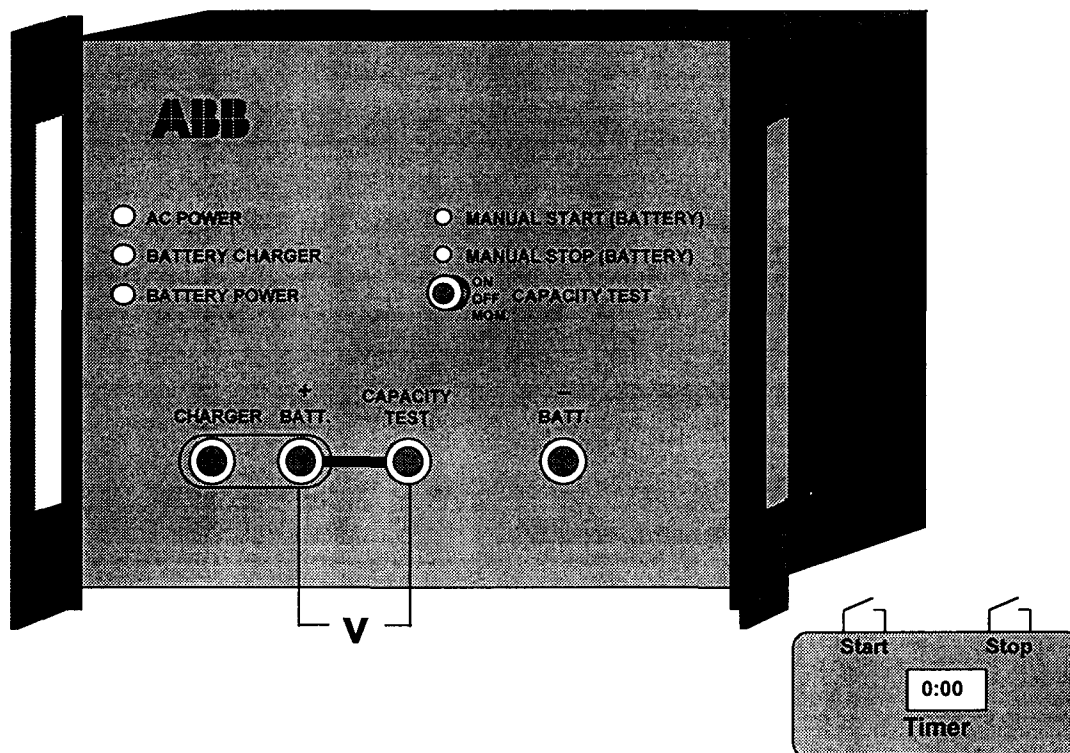

Figure 5. Capacity Test Wiring
1. Connect the UPS as shown in Figure 5.